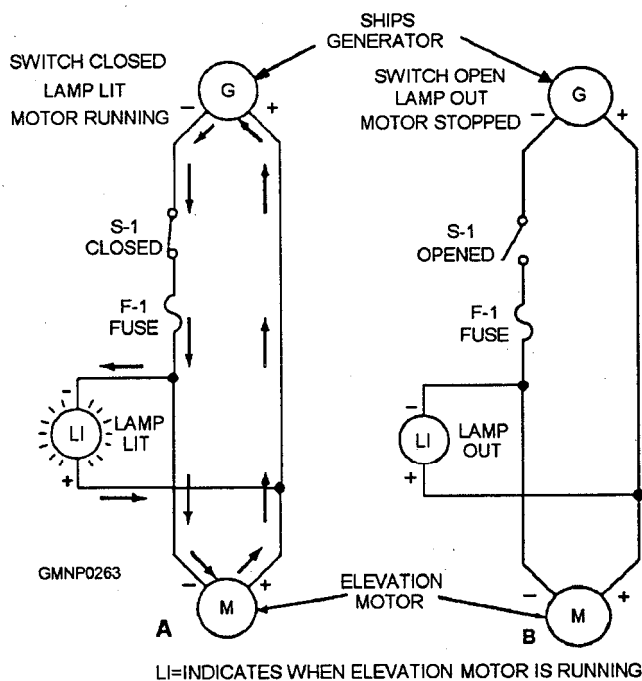

Figure 5-1.—Power-on indication circuit.
Figure 5-1 shows a simplified circuit with a light (LI) that indicates when the motor is running. The letters *L* or *LI* are the reference designations for lights on the schematics for the older gun mounts; the new ordnance equipment uses the designation *DS*.
On schematics for older gun mounts and missile launchers, fuses are designated by the letters *F* or *FA* (fig. 5-1). On newer mounts and missile launchers, such as the 76-mm 62-caliber Mk 75 gun mount and the Mk 13 Mod 4 GMLS, fuses are designated *FE* on schematics.